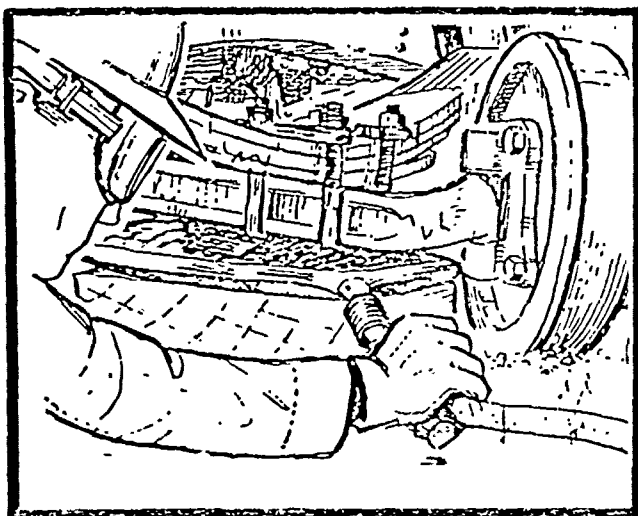

FIG. 14
1. All personnel using and assisting with the Bags should wear safety clothing, i.e., helmets, eye protection, gloves, safety boots, etc. (Fig. 14).